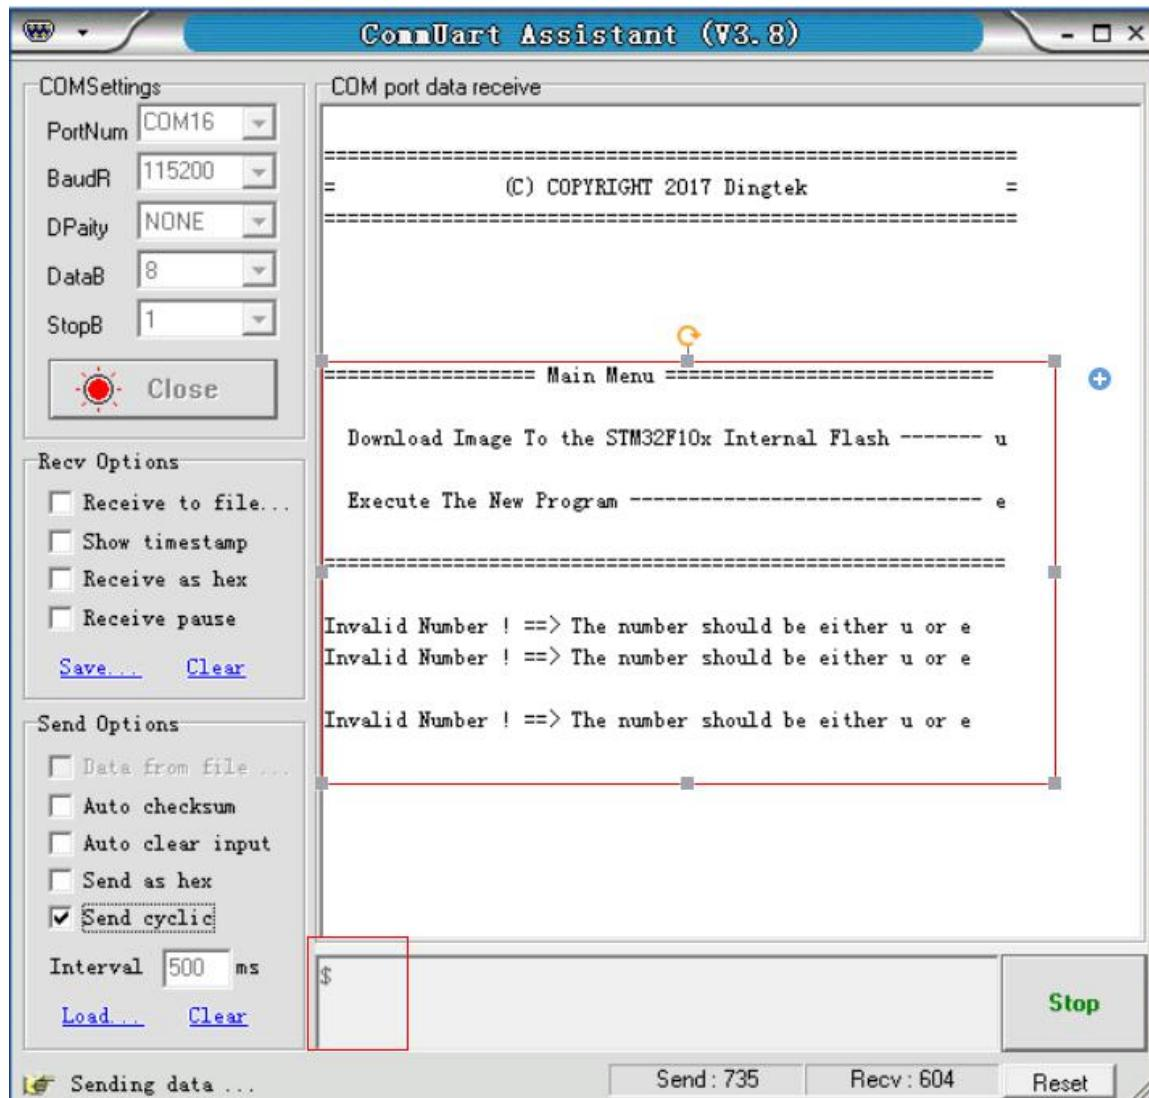

Figure7.6
7.4.3 Restart the device you can see as given Figure 7.6 .Next input is u click on the line and Click send you can gets output result: **cccccc**
1. If you cannot confirm the results of figure7.6 on the serial port software please checks connection of RX, TX and TTL device.